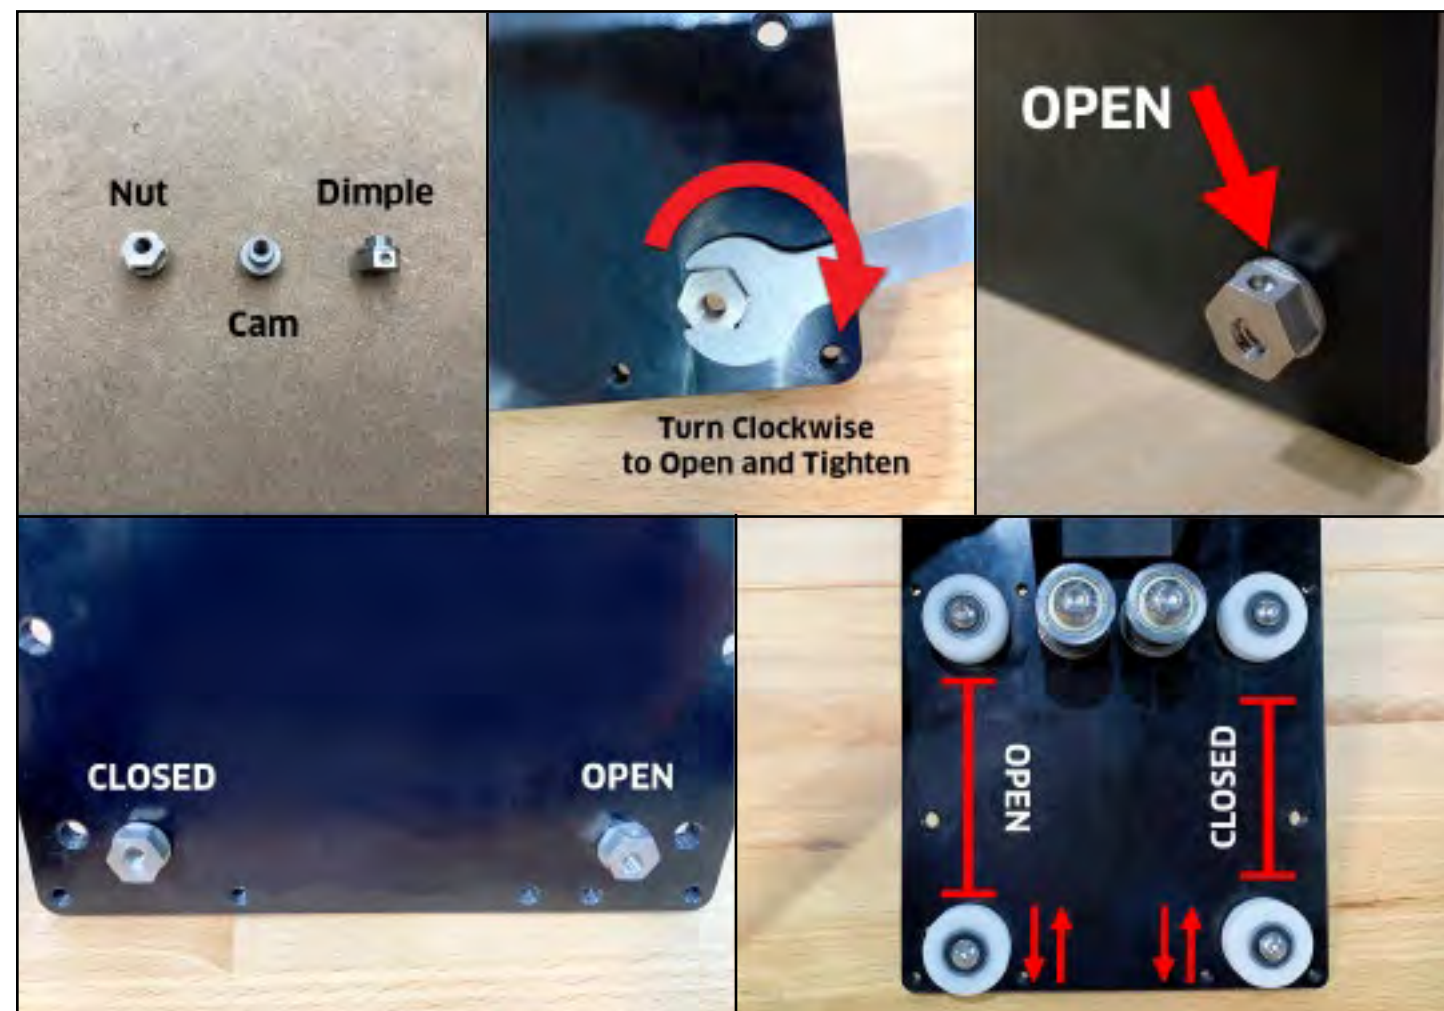

Figure 3-2
A dimple on one the side of the nut indicates the furthest point from center of the offset threads. When the dimple is facing UP, the distance between the top and bottom V-wheel is at its greatest and the V-wheels are OPEN. When the dimple is facing DOWN, they are CLOSED. **Figs. 3-2 and 3-3.**
1. Use a 10mm wrench to fully open the X-Axis gantry's four (4) eccentric nuts.
- a. Turn CLOCKWISE until the dimple faces UP. See **Figs. 3-2 and 3-3.**
between nut and V-wheel. If this happens, re-tighten with a 10mm wrench and a 3mm hex key. Not much tension is needed for the carriages to be secure. The V-wheels should only be snug against the V-rail. Reach under and spin the V-wheel with your finger. If it rotates freely, turn the eccentric nut clockwise until you feel some friction against the rail and the carriage is free from slop. See **Figs. 3-2 and 3-3.**